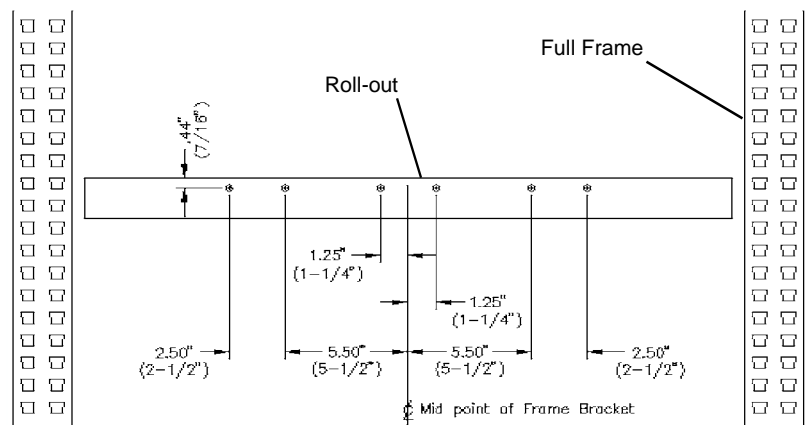

Figure 4
4. The vertically oriented **Plastic Cable Arm** may be attached to either the center, left side, or right side of the roll-out. Roll-out shelves manufactured before June 1995 may not have the appropriate holes that are required to mount the Cable Arm Bracket and may require drilling. (Mark the appropriate hole locations for either left, center, or right mounting on the rear flange of the roll-out shelf and drill with a #9 [.166" dia.] drill bit. Refer to **Figure 4**).